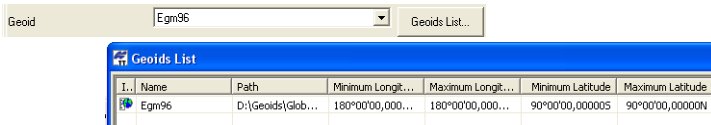

Figure 2-65. Set Grid Coordinates
3. Be sure that the desired geoid is selected and that it covers the work area (Click **Job Configuration ▶ Coordinate System** (Figure 2-65).